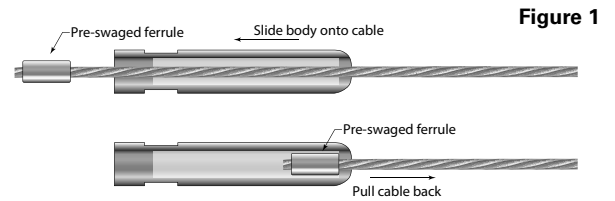

Figure 1
5. Slide the body of the Adjust-a-Body with Hanger Bolt Tensioner onto the bare end of the cable, threaded end first, and pull it the length of the cable until it is stopped by the ferrule already swaged onto the cable. (Figure 1)